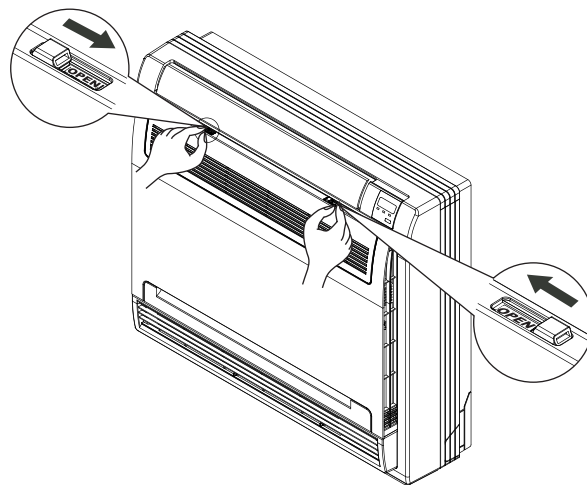

Fig.1
- 1 Open the Indoor Unit's frontal panel by sliding towards the centre the buttons on left and right sides (see Fig. 1).